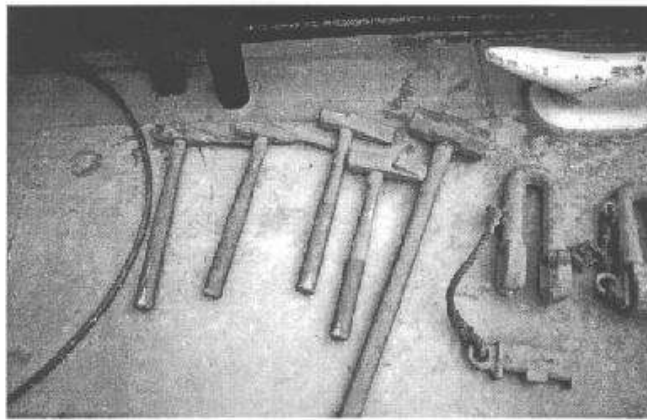

Figure 3-3 Key Punches, Blacksmith Chisel, Blacksmith Hammer, Sledge Hammer, Moose Shackle
- 6 Blacksmith's Chisel. This hammer is flat on one end and beveled on the other. It is sometimes called a split key hammer. It is used to spread the key, a large flat cotterpin, that holds a shackle pin in the shackle. It provides the best means of putting the required 45 degree separation in the split key. It is easiest to turn the shackle on deck, placing the blacksmith chisel into the key opening and hitting it with a blacksmith's hammer (See **Figure 3-3.**)
- 7 Blacksmith's Hammer. A large hammer, weighing approximately two and a half pounds, flat on both ends. This hammer is used with the blacksmith's punch, chisel, and split key punch. Those tools are lined up with the appropriate item and struck with the blacksmith hammer (See **Figure 3-3.**)